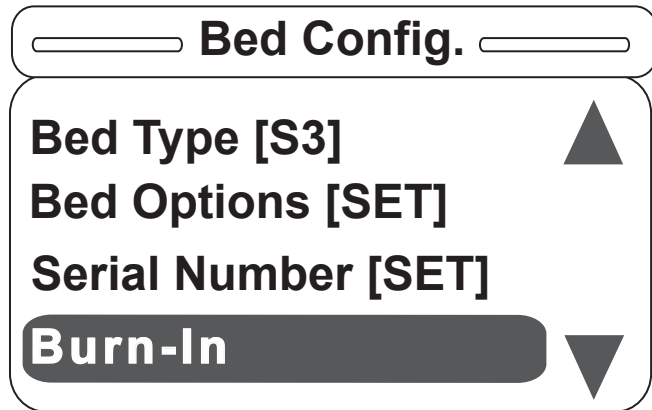

Figure S-27
25. Hitting “Exit” on the footboard panel while in the Serial Number screen will return the user to the Bed Config main menu as shown in Figure S-27. Note that the user can see the state of the items previously set.